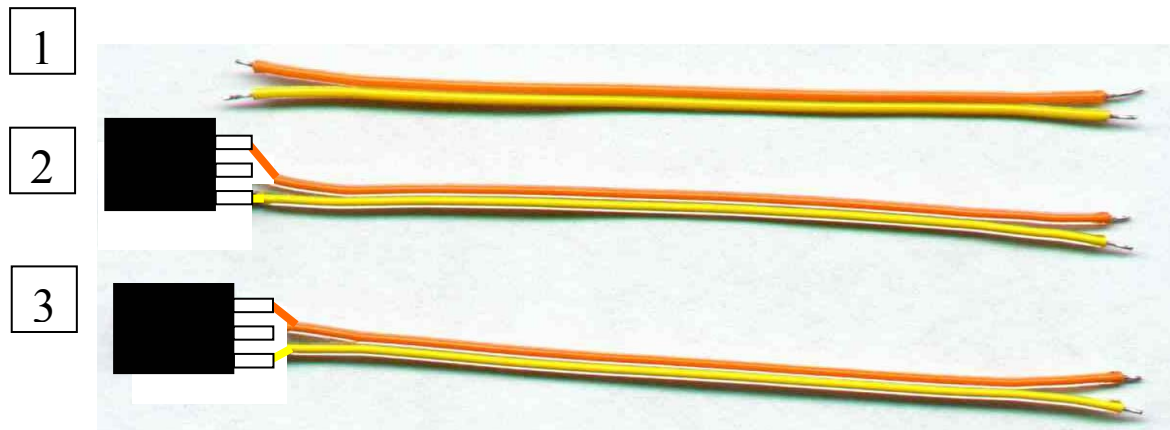

Figure 24. F2W2 DOWNLOAD/RUN CABLE: CDWNRN (3 inches).
For Figure 24,
3. Cable the push button *Reset* and the *Download-Run* switches according to the circuit in and **Figure 34**. Use CRESET (**Figure 25**) and CDWNRN (**Figure 24**) cables, respectively.